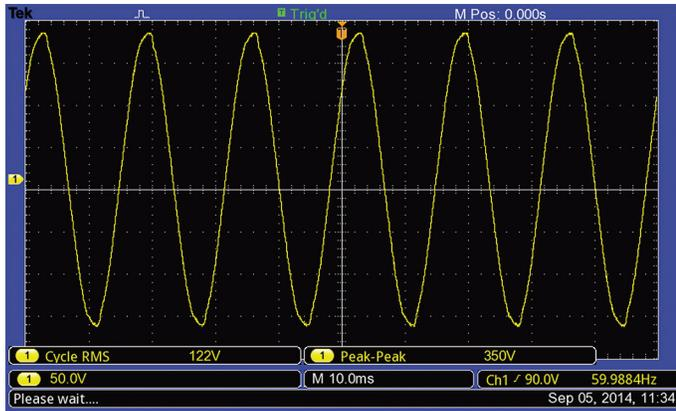

Figure 1. Line voltage measurements (cycle RMS and peak-to-peak voltage) made with P5200A High Voltage Differential Probe on Channel 1.
2. Press Measure and then press the "Ch1" bezel button; select the "rise time" measurement (see Figure 1).